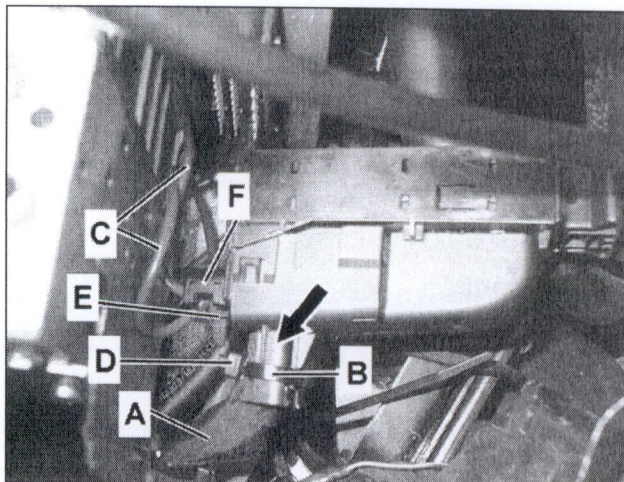

Figure 19
18. Secure SBC wiring harness (A, Figure 19) (**excluding** ground wires) to the SBC connector cover receptacle (arrow) using a new cable tie (B).